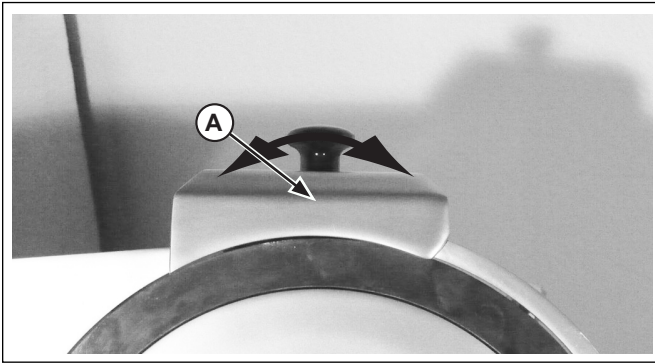

Figure 4. Knife Sharpening Assembly
6. Lift the knife sharpening assembly (A) and rotate it 90°, then lift to remove it. See Figure 4.
16. Install the food pusher shaft. See Figure 4.